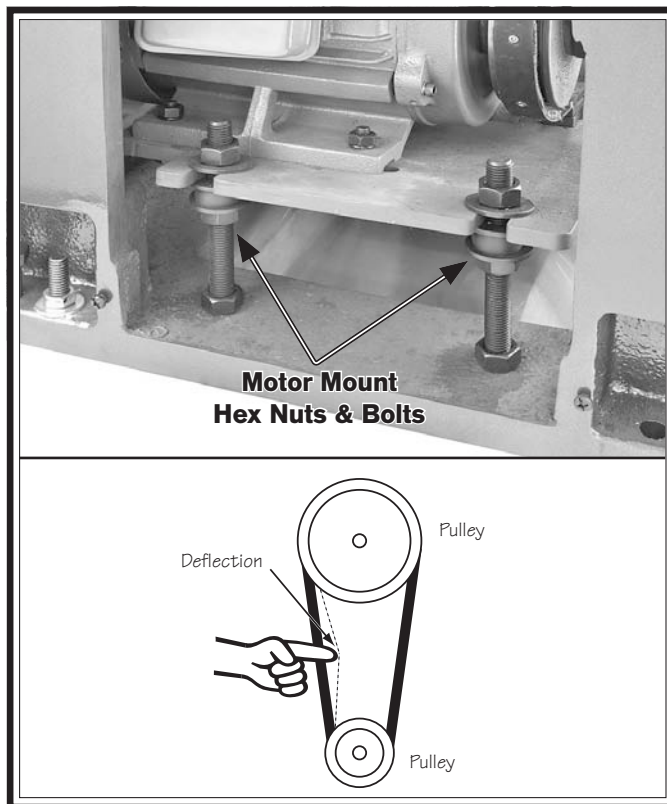

Figure 123. Adjusting V-belt tension.
3. Adjust the hex nuts on the motor mount bolts shown in **Figure 123**, until there is approximately $\frac{3}{4}$ " deflection of the V-belts when moderate pressure is applied midway between the pulleys.